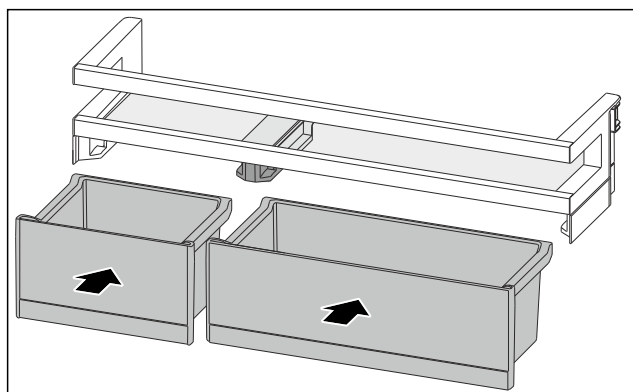

Fig. 128
- Insert the VarioBoxes in reverse order. (see Fig. 128)